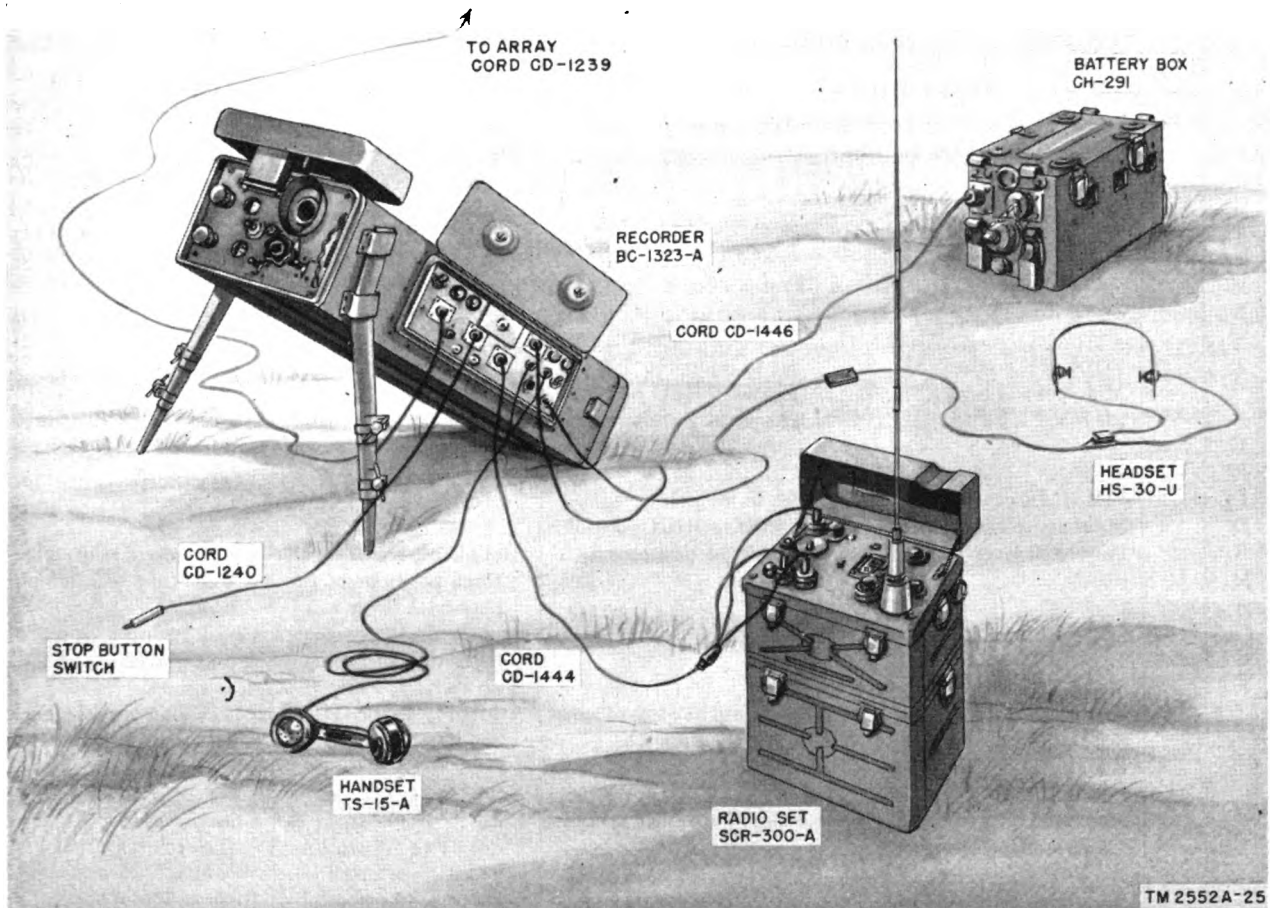

Figure 24. Cording diagram for radio operation.
- (6) Attach the clips of Handset TS-10-P to the HAND SET terminal posts.
**c. FOR RADIO OPERATION (fig. 24).**
- (1) Perform the steps outlined in *b*(1) through (4) above.
- (2) Connect one end of Cord CD-1444 to the receptacle of Recorder BC-1323-A marked RADIO.
- (3) Connect the plugs at the other end of Cord CD-1444 to respective jacks on the radio set marked PHONE No. 1, MIC, and RELAY.
- (4) Connect radio Handset TS-15-A to the recorder jacks marked RADIO HANDSET.